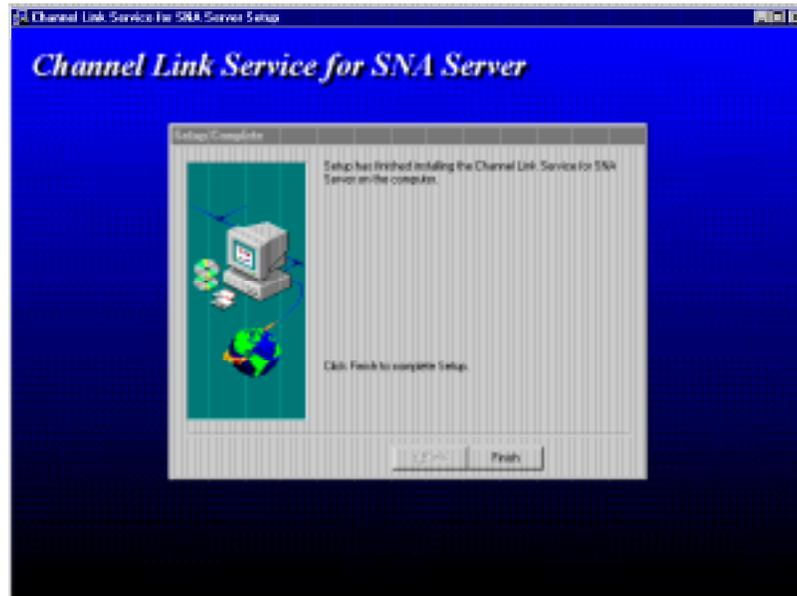

Figure 8-5. Installation Complete
4. When the Setup Complete screen (Figure 8-5) appears, click Finish to end the installation.